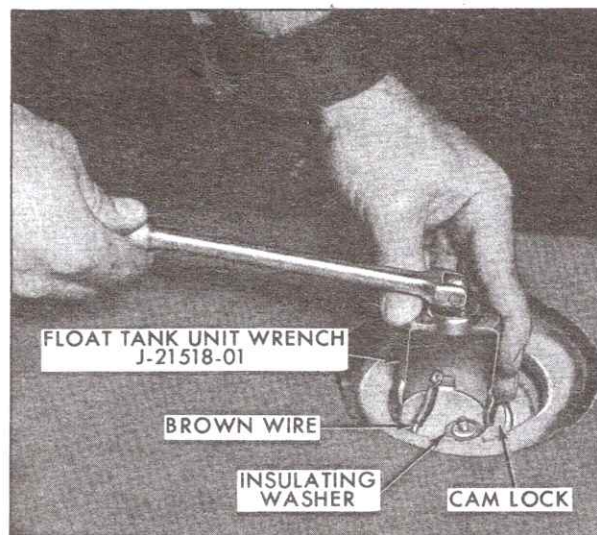

Fig. 12-52 Removing Float Tank Unit
6. Using Float Tank Unit Wrench, J-21518-01, remove cam lock as shown in Fig. 12-52.
3. Using Float Tank Unit Wrench, J-21518-01 install cam lock as shown in Fig. 12-52. Be sure cam is rotated completely and is in retaining detents.